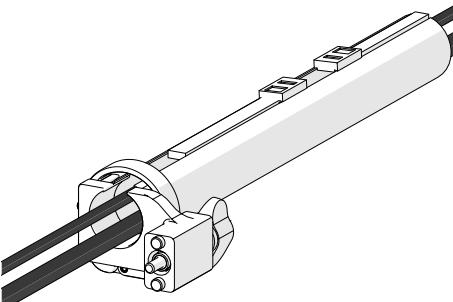

*Fig. 243 - Insert cables and hoses*
1. Open the zipper tube. Begin at the clamp end and start placing the cabling in the tube (Fig. 243).